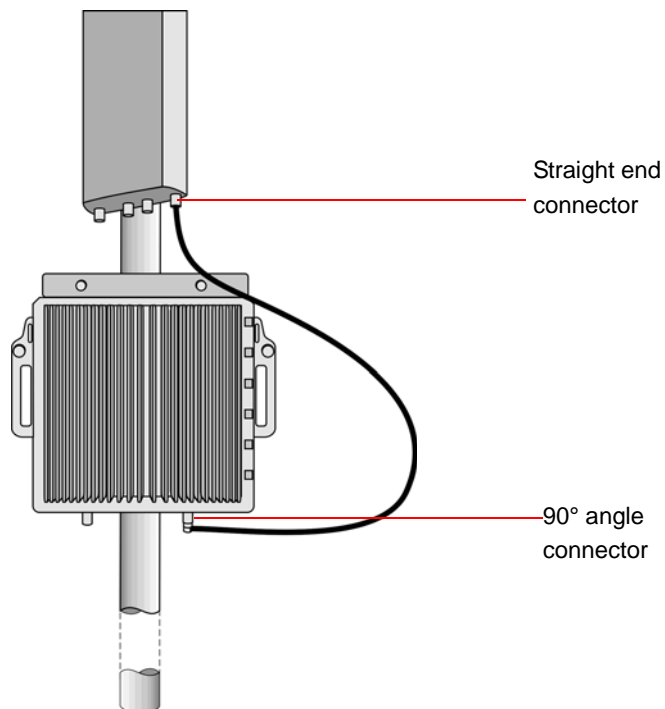

Figure 35: Antenna Cable Connection for 2x2/4x2 ODU
- 1 Connect the straight end N-Type male connector to the antenna female connector (see Figure 35). Apply torque of 1.7 [N*m]/15.00 [Lbf*in].
- 2 Connect the 90° angle connector to the RF (ANT1/2 or 1-4) connector located at the bottom panel of the ODU (see Figure 35).